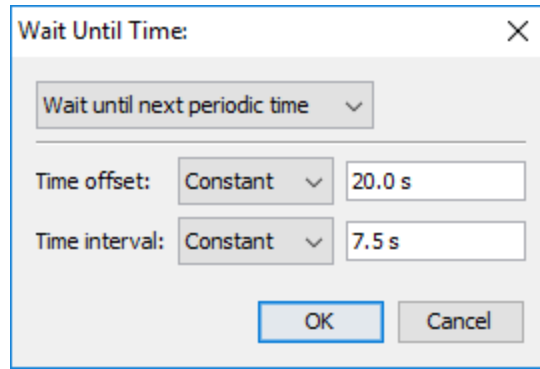

Figure 98. Wait Until Time dialog
2. Click the time to edit the value, which will show the **Wait Until Time** dialog as shown in Figure 98.